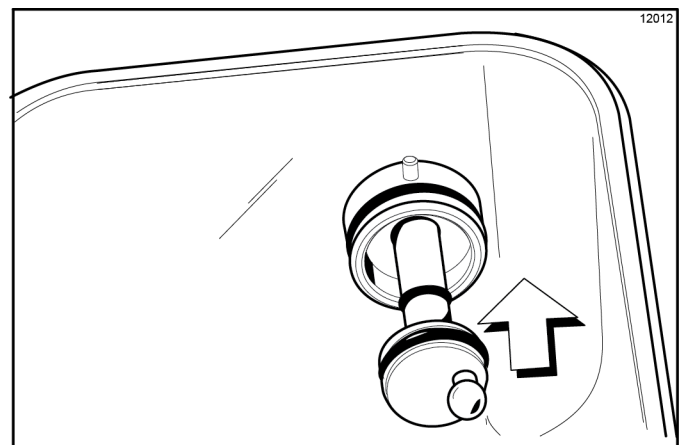

Figure 6-41
14. Install the hex end of the driveshaft into the drive hub at the rear wall of the mix hopper. (See Figure 6-41.)